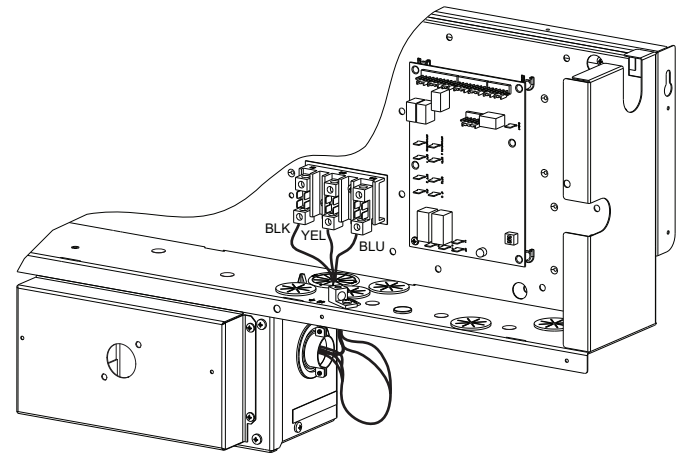

Fig. 28 — NFD Enclosure Location
1. Remove the Control Box access panel. The NFD enclosure is located below the Control Box (see Fig. 28).